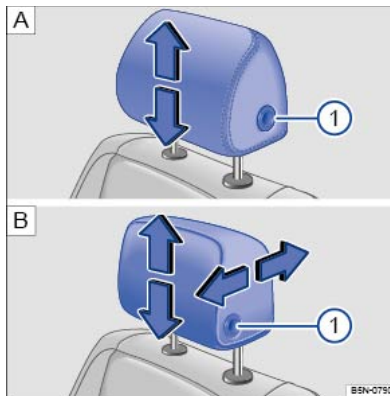
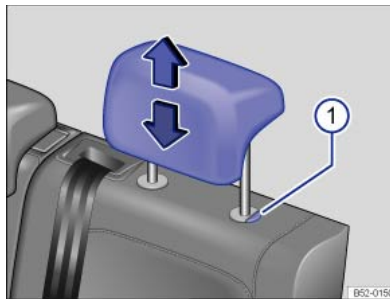

Fig. 88 Adjusting the front head restraints: without longitudinal adjustment, with longitudinal adjustment.
Fig. 89 Rear head restraint: adjusting.
- Press the button ⇒ Fig. 88 ① or ⇒ Fig. 89 ① if necessary and slide the head restraint up or down in the direction of the arrow ⇒ ⚠.
- Push the head restraint forwards in the direction of the arrow or press button ⇒ Fig. 88 B ① and push it backwards.